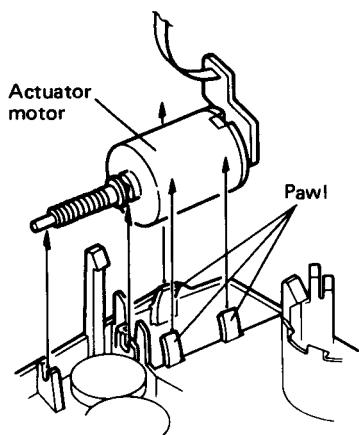
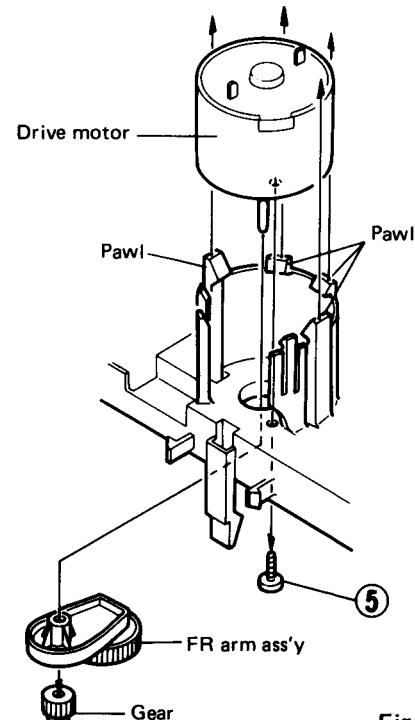

Fig. 2-13
Fig. 2-16
- **Actuator motor assembly (Fig. 2-13)**
- **Drive motor (Fig. 2-13, Fig. 2-16)**
- 2) Remove a screw ⑤ retaining the drive motor.